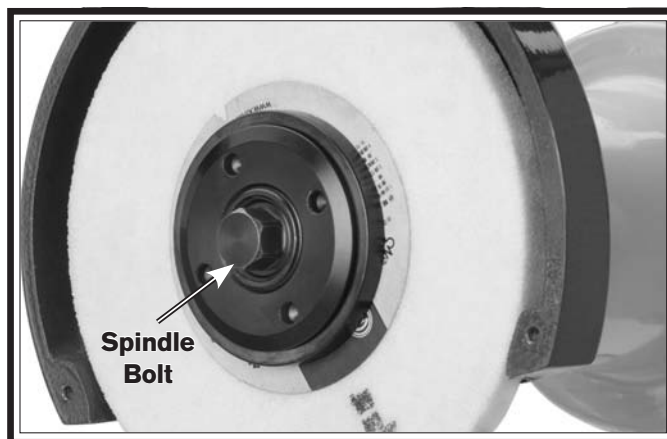

Figure 21. Retaining fasteners.
3. Position the spindle wrench on the spindle bolt (**Figure 21**).